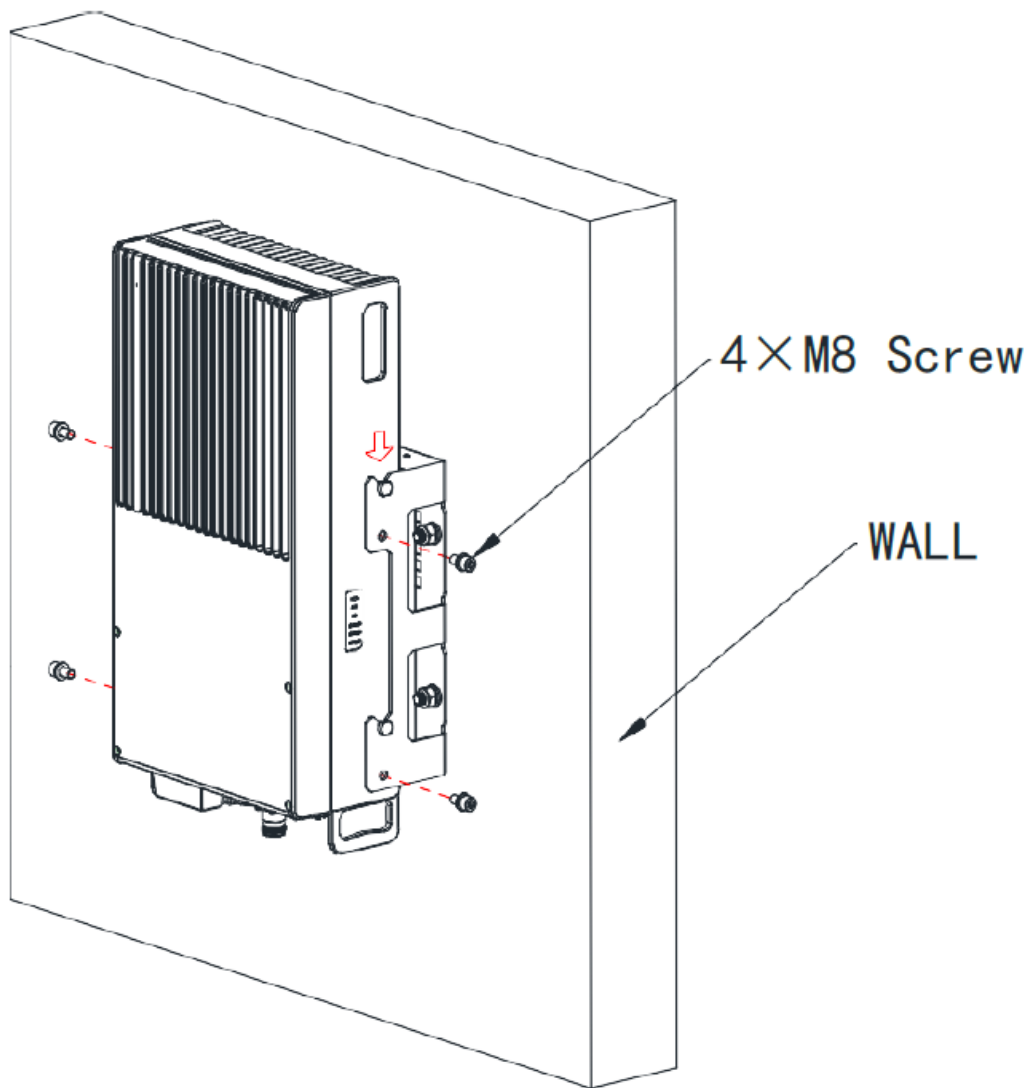

Figure 6 Wall Mounting (without Splitter)
Step 3: Lift the device, align the four mounting screws with the slot of the mounting tray, and tighten the four M8 screws on the left and right sides to secure the device, as shown in Figure 6.